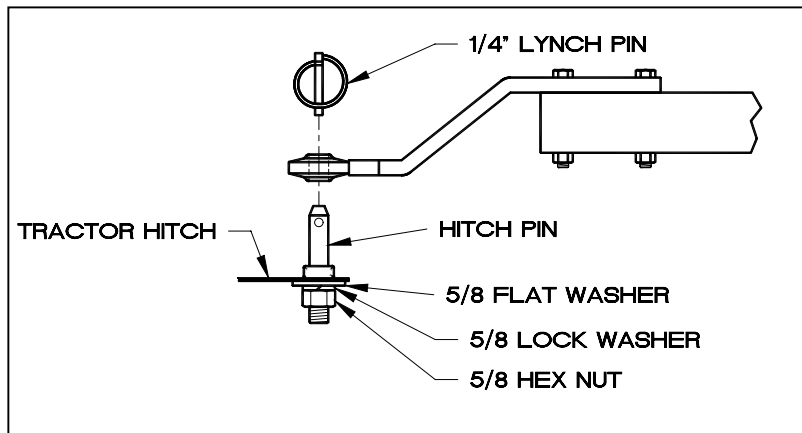

Figure 2. Hitch Assembly
4. After assembling the hitch, assemble the hitch pin to the tractor hitch as shown in Figure 2.